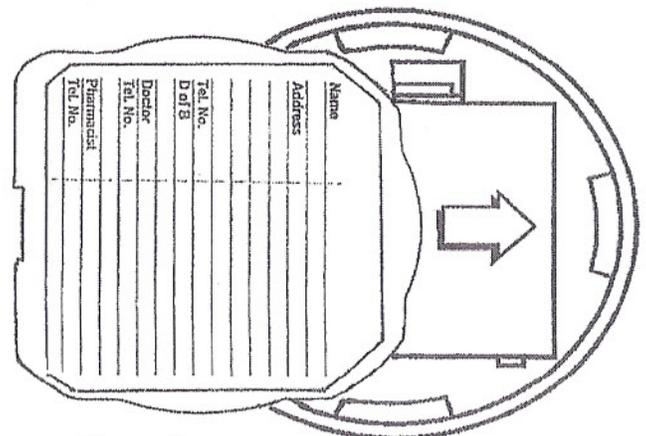

Figure 5
4. Complete the pharmacy label carrier and, place inside the case, slide the case under the dispenser as shown and clip into position. (figure 5)